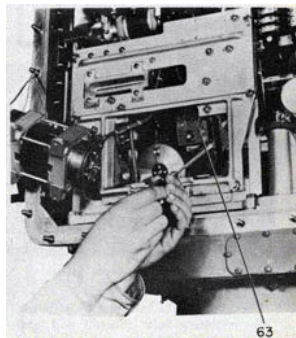

Figure 116-Removal of Follow-Up Switch.
63. Remove the follow-up switch. Check for burnt points, check condition of contact arms and pressure springs and smoothness of gear mesh. See figure 116.